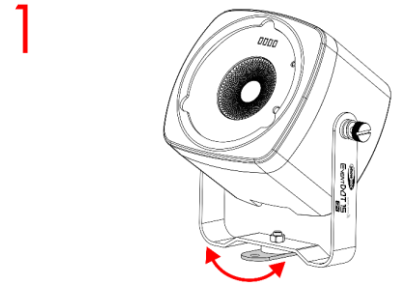

Fig. 09
- 01) Swivel the **mounting support (04)** at 90°.
- 02) Place the device on a flat surface, as shown in Fig. 09.
- 03) Adjust the angle of the device with the 2 **adjustment screws (06)**. Make sure that the device cannot move freely after the **adjustment screws (06)** are tightened.